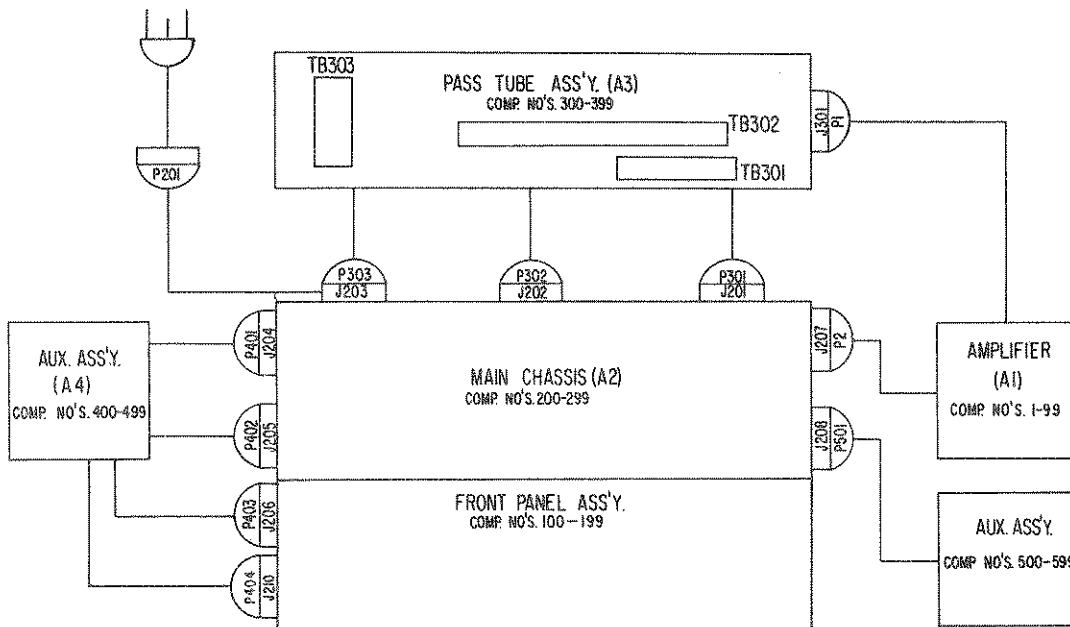
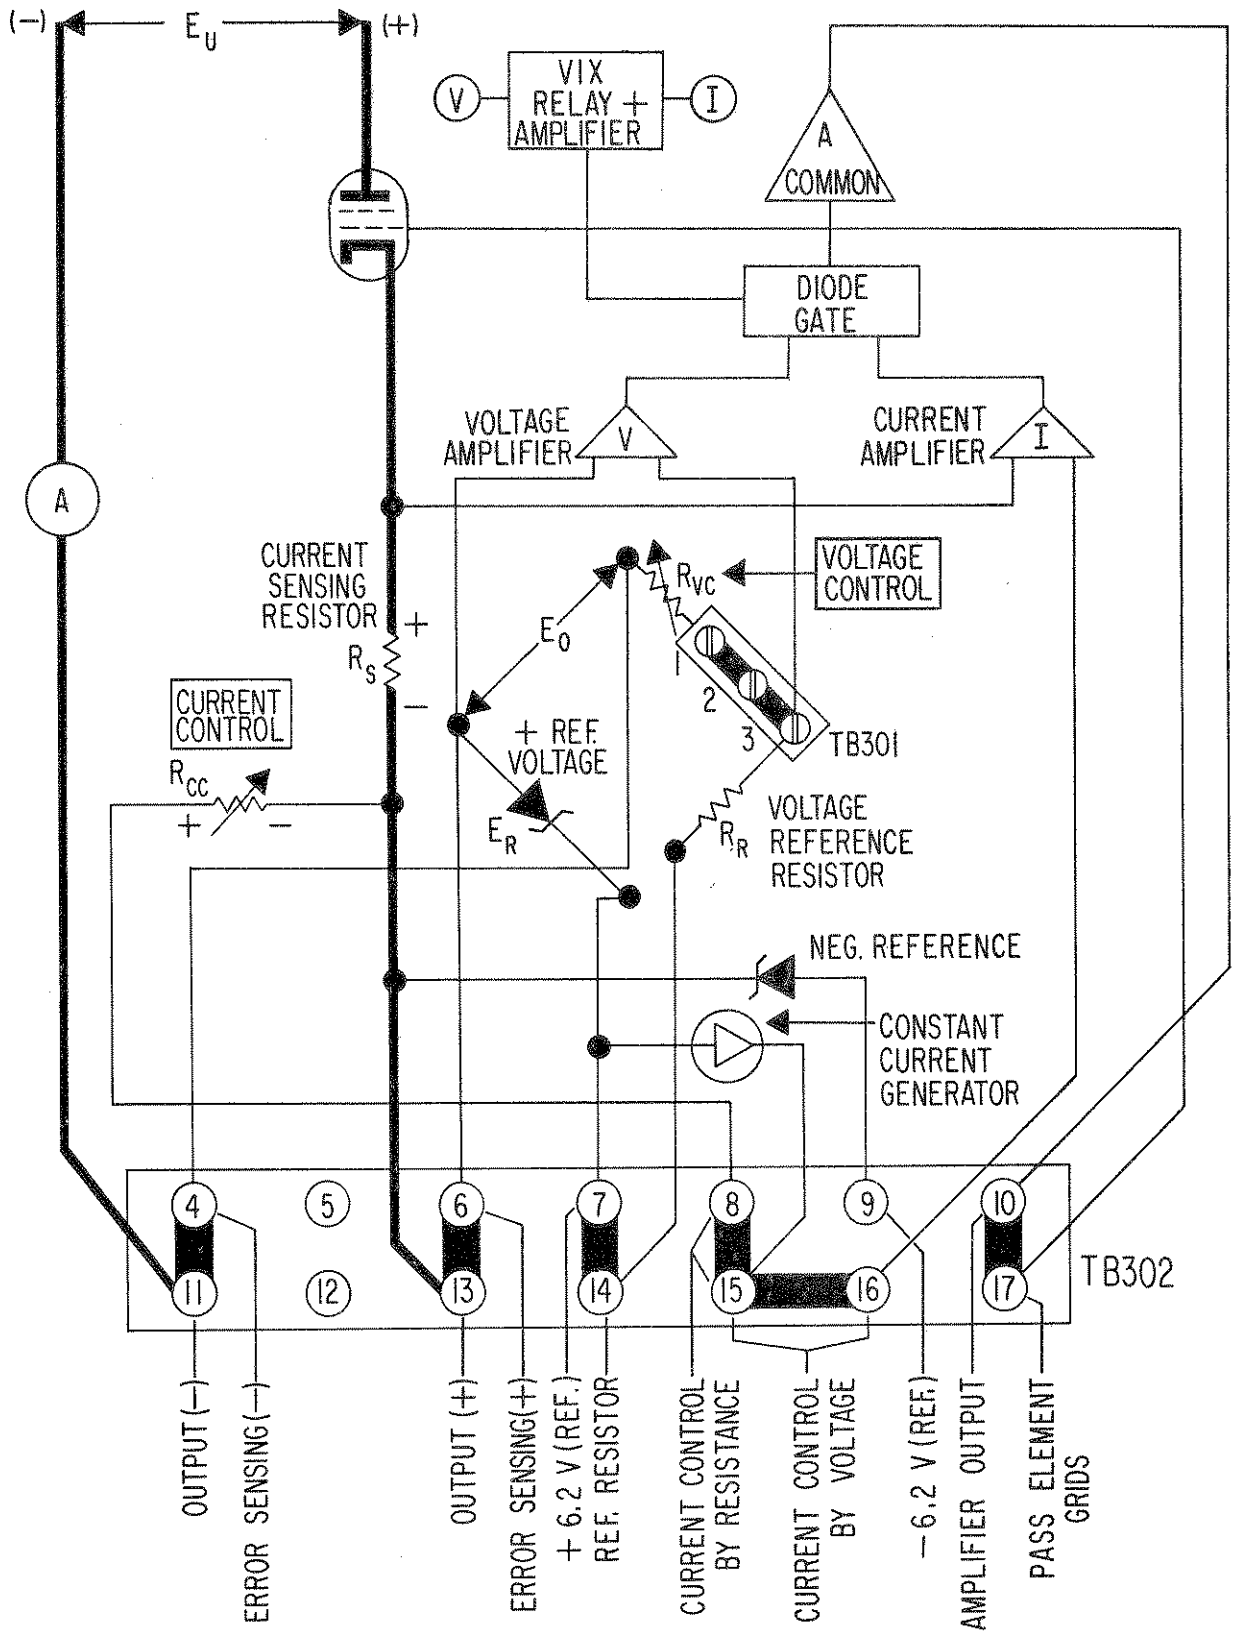

FIG. 4-1 CONNECTING DIAGRAM, BHK 2000-0.1(M).
FIG. 4-2 SIMPLIFIED DIAGRAM.
- 4-3 The connecting diagram (FIG. 4-1) shows the mechanical interconnection of the individual plug-in assemblies of the unit, while the simplified presentation (FIG. 4-2) shows the functional electrical connections. In conjunction with the main schematic (FIG. 6-6) these drawings are intended to illustrate the text of this section.
- 4-5 **A-C INPUT CIRCUIT.** A-C power is introduced through a heavy duty, 3-wire safety line cord equipped with 3-prong plug. Continuing via P201/J203 and J203/P303, the 3-line cord wires are terminated on rear barrier-strip TB303 and go from there back over P303/J203 to the input circuit. TB303 may be used for direct a-c input power connection, and the line cord may be disconnected. When S101 is closed, input power is applied to T202, via F101, F102. T202 supplies the filament current for the series regulator (pass) tubes and the primary voltage for T401. Since T202 is high voltage insulated, it also provides high voltage insulation for T401 and its associated circuitry. The a-c pilot light DS101 is now energized. Once the d-c switch (S102) is turned "on," a-c power is transferred to main transformer T201 and auxiliary transformer T203. D-C output is now available, and the voltage "VIX®" light is energized. Terminals (18) and (19) on TB303 may be opened, and a remote switching arrangement can be attached to the unit, if desired.
- 4-8 **CONTROL SECTION.** Most of the control circuitry of the Kepco BHK Power Supplies is located on PCB#1, A1. This assembly is in the form of a printed circuit board whose connectors P1 and P2 mate with J301 and J207 respectively, thus interconnecting the control amplifiers to the pass tube assembly and the main chassis. (Refer to FIG. 4-1.) Electrically, the control circuitry consists of several interrelated sections which are described below.
- 4-5 A-C INPUT CIRCUIT. A-C power is introduced through a heavy duty, 3-wire safety line cord equipped with 3-prong plug. Continuing via P201/J203 and J203/P303, the 3-line cord wires are terminated on rear barrier-strip TB303 and go from there back over P303/J203 to the input circuit. TB303 may be used for direct a-c input power connection, and the line cord may be disconnected. When S101 is closed, input power is applied to T202, via F101, F102. T202 supplies the filament current for the series regulator (pass) tubes and the primary voltage for T401. Since T202 is high voltage insulated, it also provides high voltage insulation for T401 and its associated circuitry. The a-c pilot light DS101 is now energized. Once the d-c switch (S102) is turned "on," a-c power is transferred to main transformer T201 and auxiliary transformer T203. D-C output is now available, and the voltage "VIX@" light is energized. Terminals (18) and (19) on TB303 may be opened, and a remote switching arrangement can be attached to the unit, if desired.
- 4-8 CONTROL SECTION. Most of the control circuitry of the Kepco BHK Power Supplies is located on PCB#1, A1. This assembly is in the form of a printed circuit board whose connectors P1 and P2 mate with J301 and J207 respectively, thus interconnecting the control amplifiers to the pass tube assembly and the main chassis. (Refer to FIG. 4-1.) Electrically, the control circuitry consists of several interrelated sections which are described below.